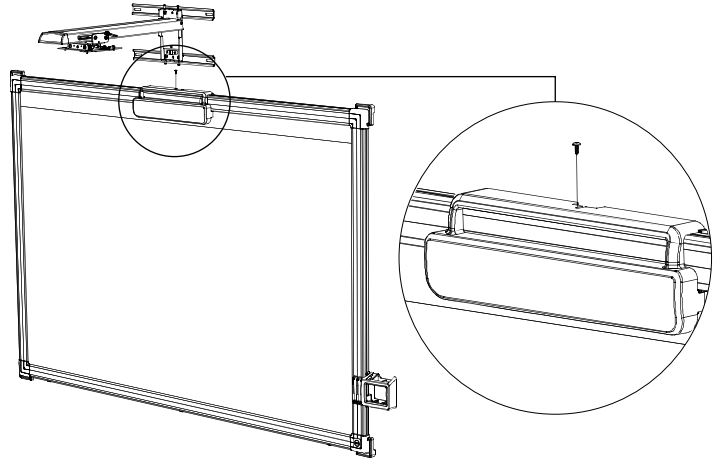

Figure 10
17. Attach sensor cover by snapping clips over screen frame. Secure to frame by screwing down into the upper channel of the screen frame with supplied #8 x 3/4" screw (Figure 10).